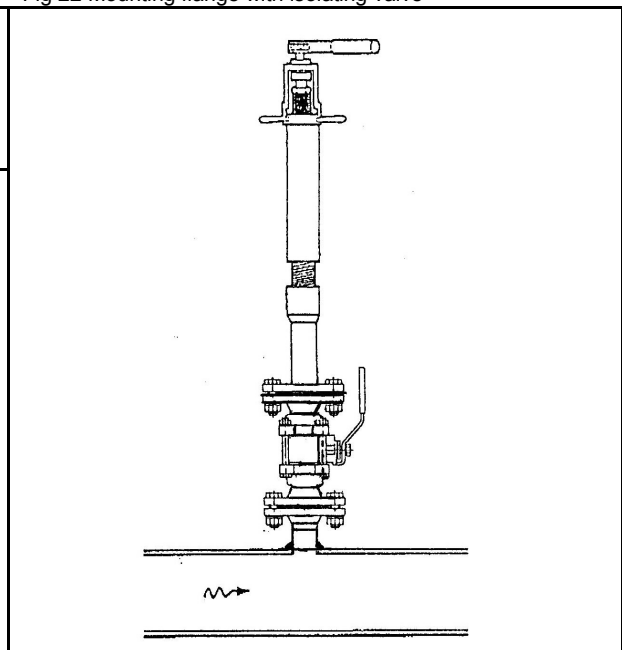

Fig 23 Drilling machine with flanged adapter nipple-mounted on unit isolating valve.
2. Tack the mounting stud [1 (see fig 23)] (supplied with the Flo-Tap) onto the pipe leaving a clearance of 1 to 2 mm. The bolt holes of the flange must be at 45 ° angles to the pipe axis (see fig 21).